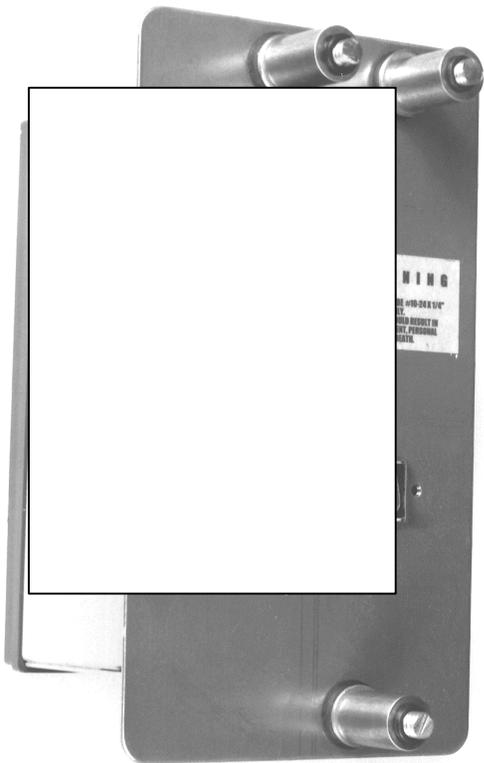

Figure 17. Trip unit attached to its mounting plate.
1. Place a lock washer and flat washer over each of the three $1/4$ -20 x $1\frac{3}{8}$ " screws provided and insert through the mounting holes on the trip unit mounting plate. From the rear of the plate, place a flat washer, spacer, and O-ring over the screws, as shown in Figure 17.
2. Remove the large screw from the rear of the trip unit. Place the trip unit in position on the mounting plate, with the 50-pin connector aligned with the opening in the plate. Secure with the large screw, as shown in Figure 17.